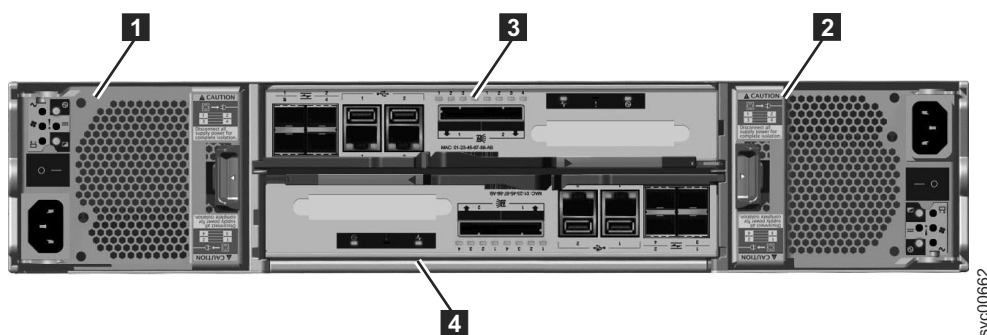

Figure 3. Rear view of a model 2076-112 or a model 2076-124 control enclosure
Figure 3 shows the rear view of a control enclosure and identifies the location of the power supply units and the canisters.
- Two canisters are housed in the middle of the enclosure. Each canister is known as a node canister. The upper canister, as shown in Figure 3 on page 4, is labelled **3**, and the lower canister is labelled **4**. Canister **3** is top side up, and canister **4** is inverted, or top side down.